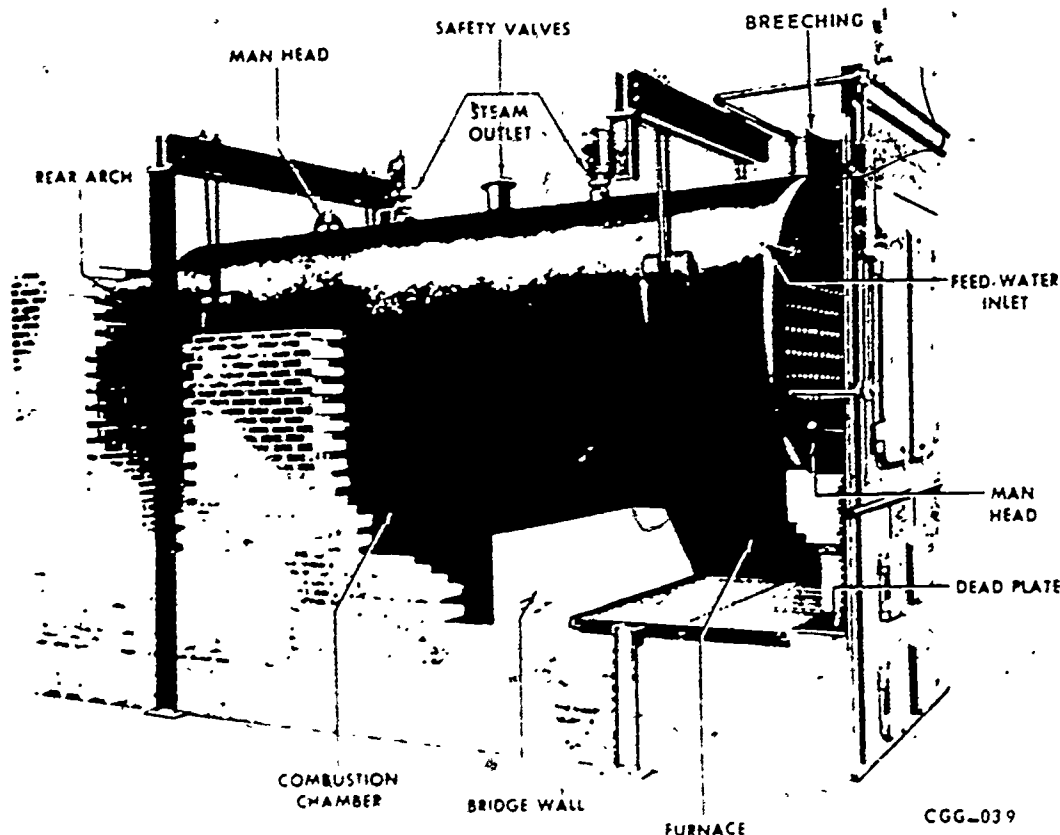

Figure 2-2. A horizontal-return tubular boiler.
b. Tubular boiler. The horizontal-return tubular boiler, often called the HRT boiler, is used for industrial heating (see fig. 2-2). This boiler is round and has one or two sets of tubes extending throughout its length. The firebox must be constructed separately of firebrick. Approximately one-half of the boiler extends beyond the firebox. Large boilers are supported from the floor by four columns, with the firebrick forming four sides of the firebox. The initial cost of the HRT boiler is relatively low, and it is not difficult to install. The boiler setting can be readily changed to meet different fuel requirements—coal, oil, wood, or gas. Tube replacement is also a comparatively easy task,
The gas flow in the HRT boiler is from the firebox toward the rear of the boiler, where the gases are directed upward to the tubes by means of refractory baffle. Then it returns through the tubes to the front of the boiler where it is discharged to the breeching, as shown in figure 2-2. The HRT boiler has a pitch of 1 to 2 inches to the rear. This allows sediment to settle toward the rear. The fusible plug of the boiler is located 2 inches above the top row of tubes. Boilers over 40 inches in diameter require a manhole in the upper part of the shell. Those over 48 inches in diameter must have a manhole in the lower as well as the upper part of the shell. Don't fail to familiarize yourself with the location of these and other essential parts of the HRT boiler.